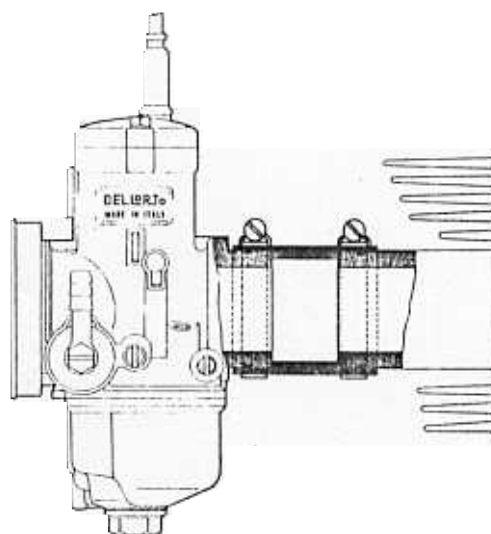

fig. 4
- A-male clamp fixing (figure 4)